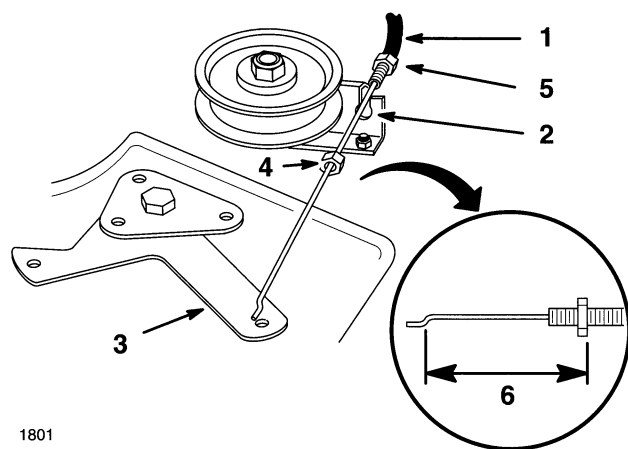

**Figure 7**
7. Slide the end of the long rod through the hole in the mower mount (Fig. 7). Install the washer and hair pin cotter to secure the rod in place. Repeat this step on the opposite side of the mower.
8. Mount the slotted mower leveling bracket onto the pin on the mower mount (Fig. 7). Install the washer and hair pin cotter to secure the mower. Repeat this step on the opposite side of the mower.